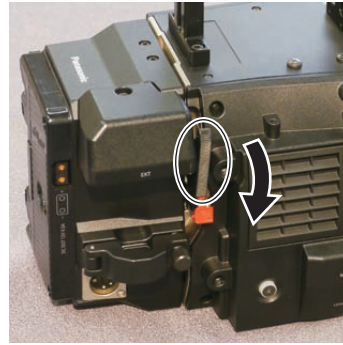

Fig. 2
- 1** Push down the recording module release lever (Fig. 2) while pulling up the lock knob (red) of the recording module release lever (Fig. 1).